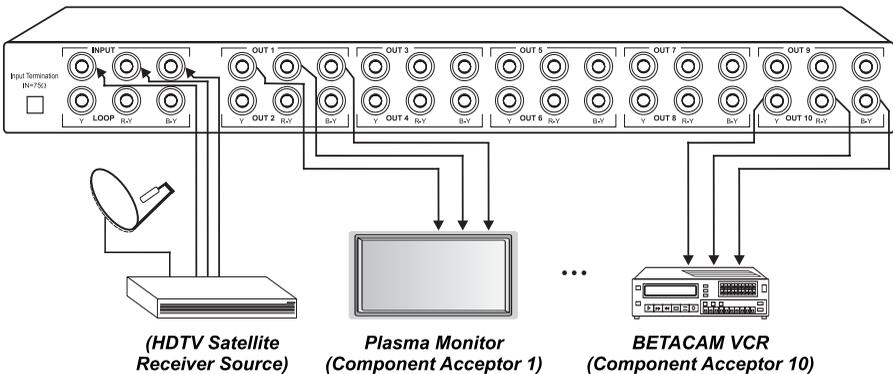

Figure 3: Connecting a VM-100C Unit
| Figure 3: | Connecting a VM-100C Unit | 5 |
4. Connect the power cord³ (not illustrated in Figure 3).